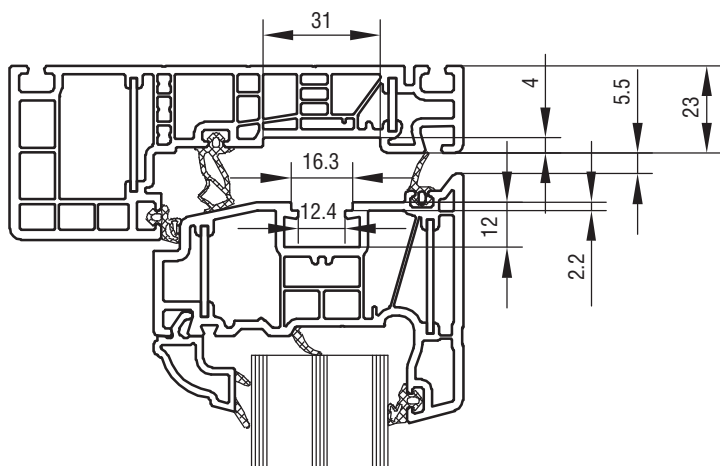

FIG. 1
2. VINDUET LUKKES CA. 2 CM. BETJENINGSTAPPEN TRÆKKES IND MOD BAGFALSEN OG VINDUET ÅBNES SAMTIDIG. SE FIG. 1.